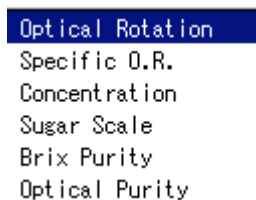

Figure 3.8 Measurement mode edit window
- 1) Press <Optical Rotation ▼> shown in Parameters window 1 (the left window in Fig. 3.7). The window shown in Fig. 3.8 is displayed.